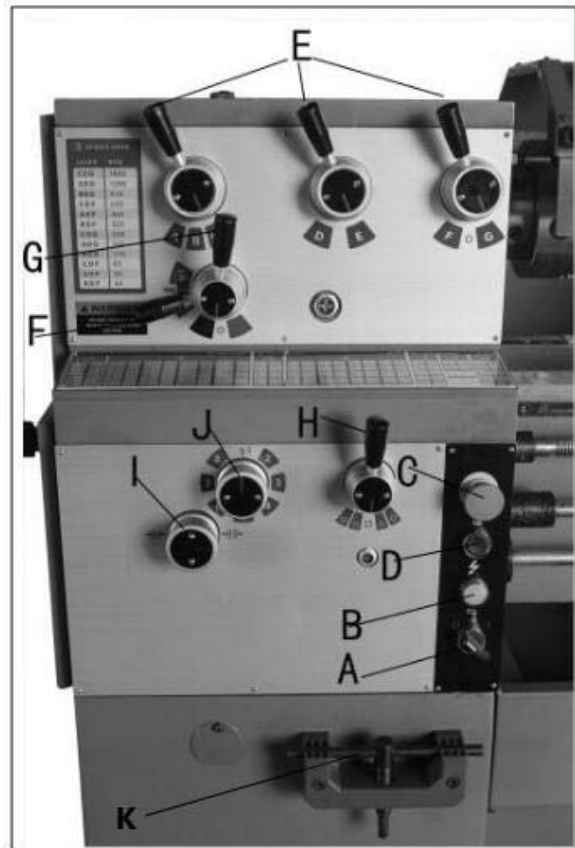

Figure 14
- C. Emergency Stop Switch** (C, Fig. 14) – depress to stop all machine functions.
- D. Jog Switch** (D, Fig. 14) – Press and release to advance spindle momentarily.
2. **Headstock Gear Change Levers (E, Fig. 14)** – located on front of the headstock. Move levers according to speed chart for desired setting.
3. **Leadscrew/Feed Rod Directional Lever (F, Fig. 14)** – located on front of headstock. Moving the lever up causes carriage travel toward the tailstock. Moving the lever down causes carriage travel toward the headstock. When chuck is spinning in the forward or counter-clockwise direction. Do not move lever while machine is running.
4. **Feed/Lead Selector Lever (G, Fig. 14)** – located on the front of the headstock. Used whenever setting up for threading or feeding.